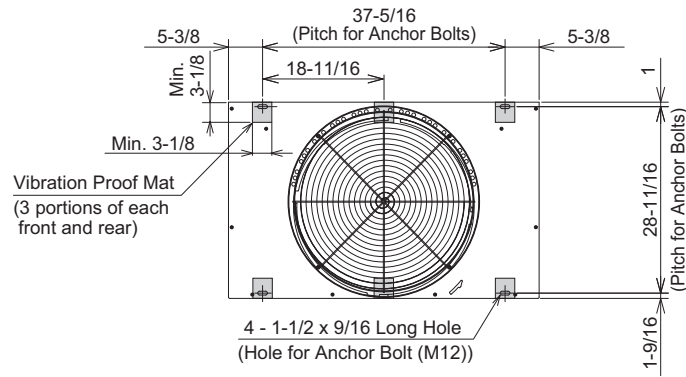

Figure 5.3 Positions of Anchor Bolts
- (5) When installing the outdoor unit, secure the unit with anchor bolts and field-supplied vibration-proof mats. Refer to Figure 5.3 for the location of holes for anchor bolts.